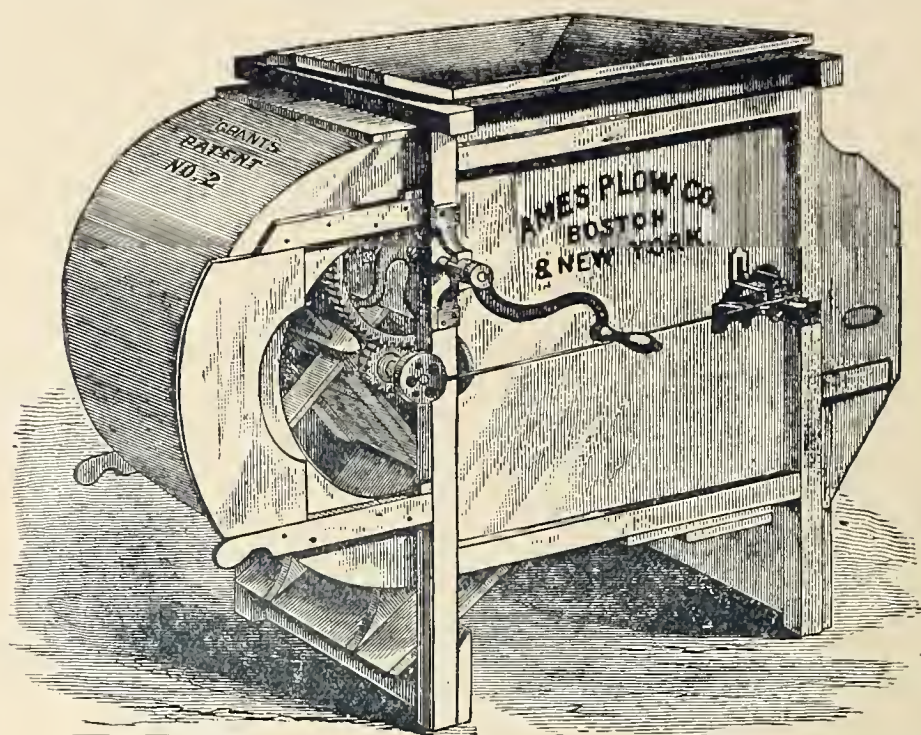

Fig. 402. — Grant Fan-Mill.
*The Grant Fan-Mill*, represented by **Fig. 402**, is believed to be the most effective for perfectly cleaning every kind of grain, rice, grass, and other seeds and substances, at one operation. It is made in the most substantial manner of the best material, eight sieves accompanying each mill for the cleaning of different seeds. Eight sizes of these mills are made, and larger sizes for warehouse and other purposes when required.